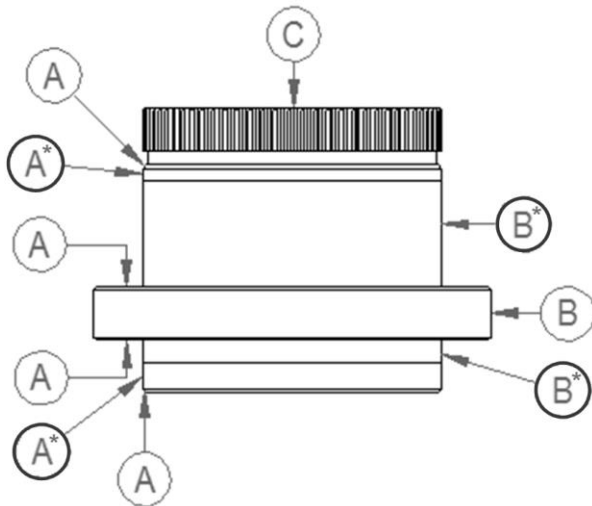
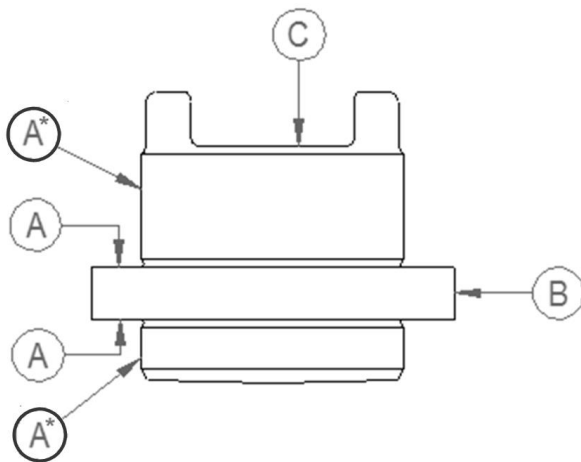

Figure 8 - Spined Output Sleeve, Important Surfaces
Figure 9 – HOB3 Dog Drive Output Sleeve, Important Surfaces
The output sleeve (14) can be easily removed from the gearbox by first removing the spigot ring (15) from the baseplate (16). A small force may have to be applied to the face marked 'C' in Figure 8 to assist in removing the output sleeve.
For all gearboxes, apart from HOB3, see Figure 8. For the HOB3 gearbox, see Figure 9.
- ! **IMPORTANT:** Before re-fitting the output sleeve after machining, check that the surfaces marked 'A' in Figure 8 and Figure 9 are not damaged. Damaged surfaces can break the gearbox seals or bearings and cause water ingress or grease leakage.
An anti-friction compound containing molybdenum disulphide, such as MI-Setral-9M, should be applied to the faces marked with an asterisk '*' in Figure 8 and Figure 9 before inserting the output sleeve back into the gearbox. For clarification on the suitability of an anti-friction compound, please contact Rotork Gears.
- ! **IMPORTANT:** Before fitting the output sleeve, check that the surfaces marked 'A' in Figure 8 and Figure 9 are not damaged. Damaged surfaces can break the gearbox seals or bearings and cause water ingress or grease leakage.
An anti-friction compound containing molybdenum disulphide, such as MI-Setral-9M should be applied to the faces marked with an asterisk '*' in figure 9, before inserting the output sleeve back into the gearbox. For clarification on the suitability of an anti-friction compound, please contact Rotork Gears.